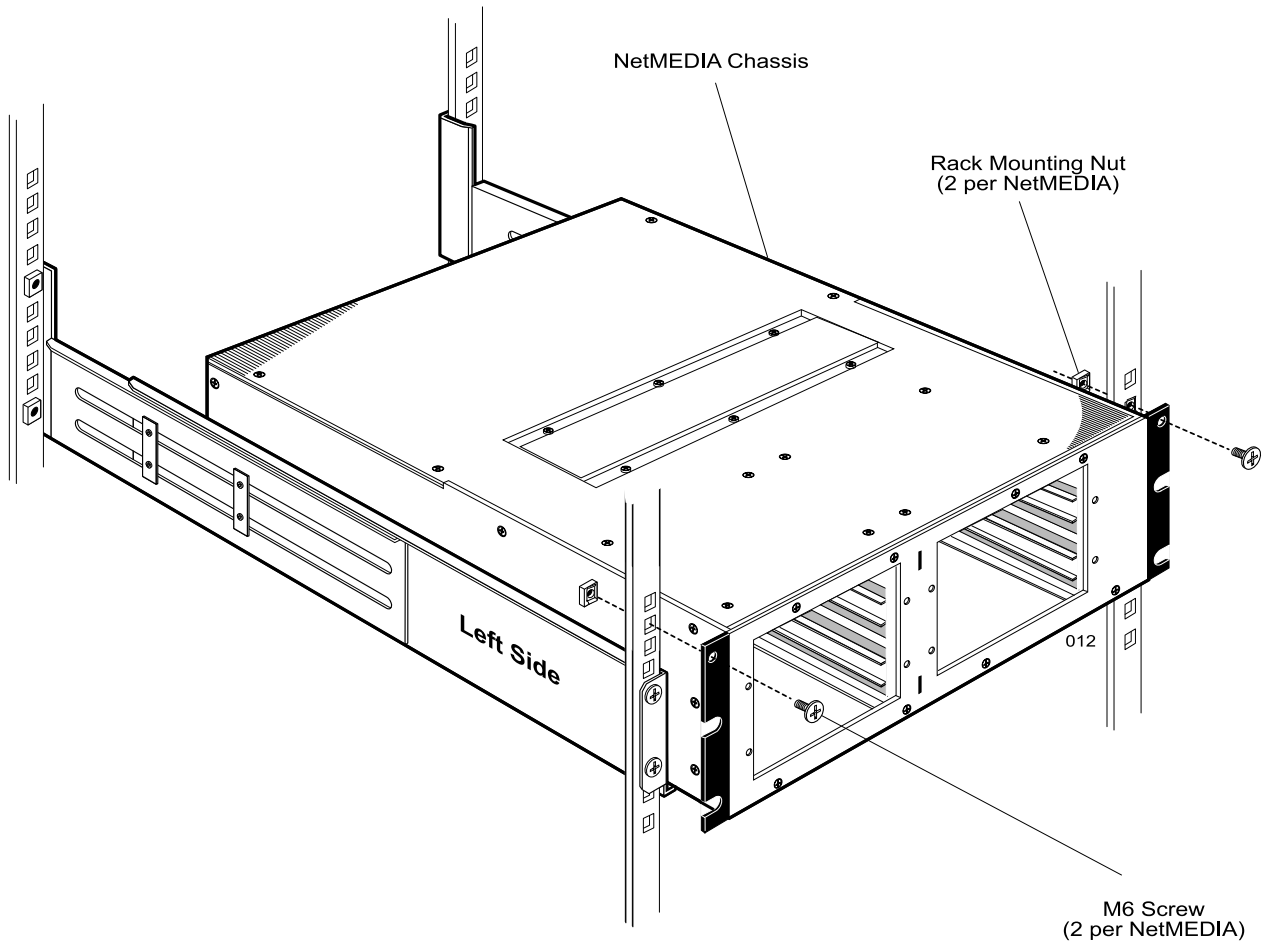

Figure 15: Installing and Securing the NetMEDIA to the Rails
2. Unscrew the eight (8) #6-32 screws that secure the two (2) mounting flanges to the NetMEDIA chassis and remove flanges (Figure 15). Be sure to save the flanges and screws for future use.
3. Turn over the NetMEDIA chassis so that the bottom of the unit is facing upwards. Peel the adhesive backing off the four (4) rubber feet provided and apply the feet to the underside of the chassis. Use the four (4) holes on the underside of the chassis as guides when mounting the feet (Figure 15).